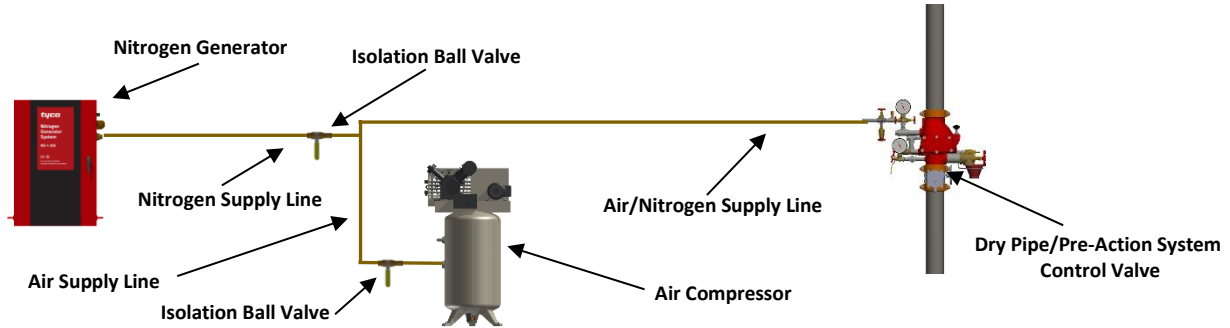

Figure 3b
Step 3b: Plumb the Nitrogen/Air Supply Line – With Separate Air Compressor (Figure 3b)